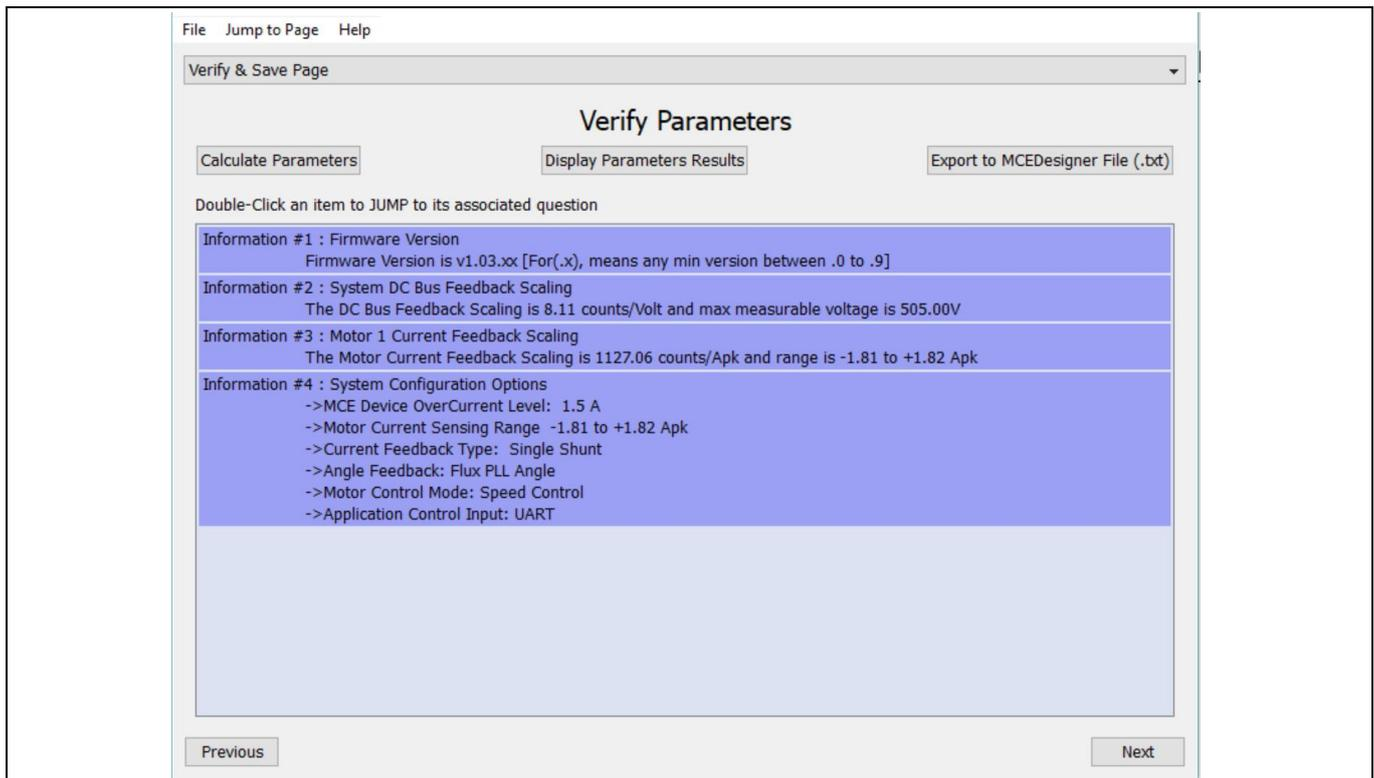

Figure 8 MCEWizard verify and save page
- After system and operating parameters are set, go to the “Verify & Save Page” and click on “Calculate” button. If no errors are reported, then save the drive parameter set in your project directory by clicking “Export to Designer file (.txt)” (Figure 8); if some errors are detected, double-click on the error message (highlighted in RED) and adjust the related parameters. Saved Drive System Parameter File will be later used for programmers.